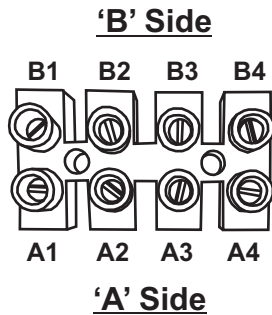
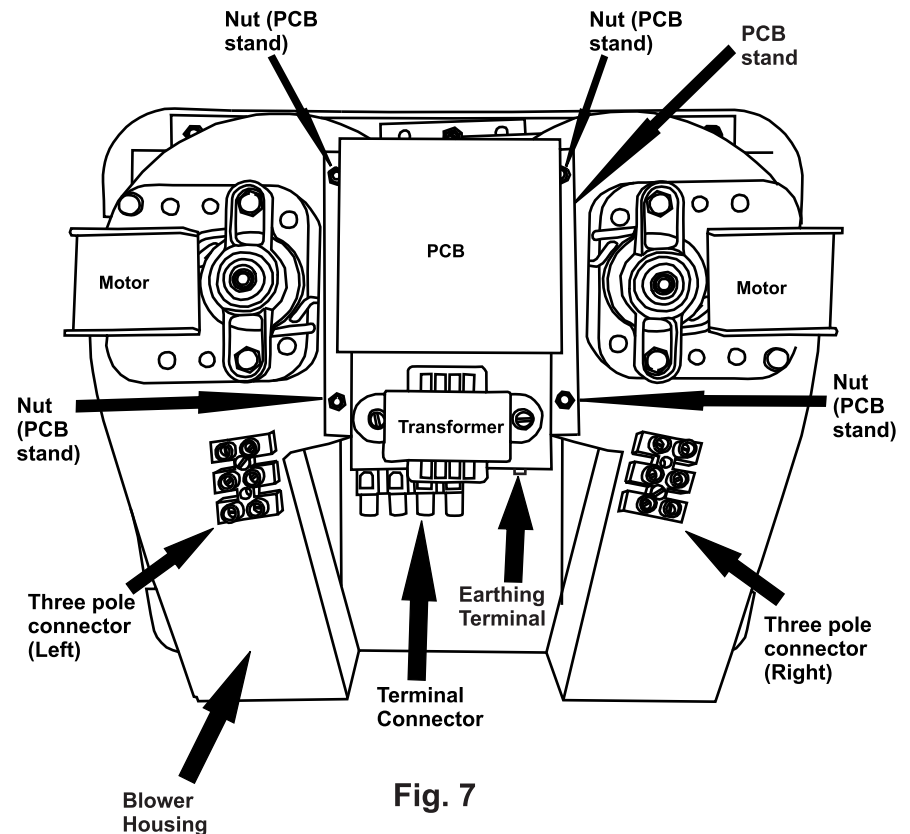

Fig. 8
Fig. 7
Do not remove any wires from the three pole connectors (Refer Fig. 7). To replace the PCB, do not touch the wire connections on the 'B' side of terminal connector which are already made by the manufacturer.
- 2) Once the outer cover is completely detached, remove the four wires (red, two black and yellow wires) that go to the terminal connector (Refer Fig. 7) on the 'A' side (Refer Fig. 8).
- 3) Remove the four nuts (Refer Fig. 7) that fit the PCB stand to the blower housing of the hand dryer.
- 5) Fit the four wires removed earlier on the 'A' side of the terminal connector in their correct positions. (Refer Fig. 8). The wire connections on the 'B' side of the terminal connector are already made by the manufacturer and need not be touched.